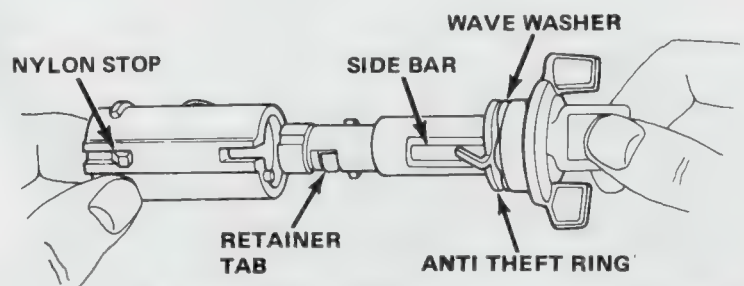

Fig. 2H-38 Assembling Lock Cylinder and Sleeve
(1) Install key completely into cylinder then pull it out two notches.
(2) Place wave washers and anti-theft ring in position.
(3) Push nylon stop in lock cylinder downward and hold nylon stop in lock sleeve upward with left forefinger (fig. 2H-38).
(4) Align anti-theft ring tang and lock cylinder side bar with slot in wall of sleeve and install cylinder in sleeve.
(5) Push key in and turn clockwise to lock cylinder in sleeve.